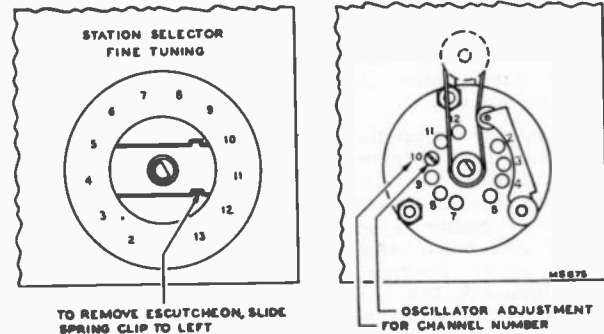

Figure 4—R-F Oscillator Adjustments
**CHECK OF R-F OSCILLATOR ADJUSTMENTS.**—Tune in all available stations to see if the receiver r-f oscillator is adjusted to the proper frequency on all channels. If adjustments are required, these should be made by the method outlined in the alignment procedure on page 10. The adjustments for channels 2 through 5 and 7 through 12 are available from the front of the cabinet by removing the station selector escutcheon as shown in Figure 4. Adjustment for channel 13 is on top of the chassis and channel 6 adjustment is in the kinescope well. See Figures 8 and 9 for their location.